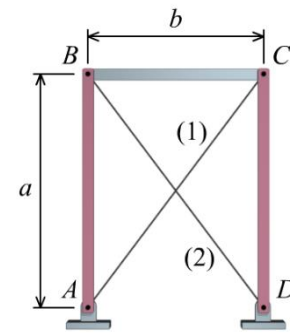

FIGURE P2.3
P2.3 Pin-connected rigid bars AB , BC , and CD are initially held in the positions shown in Figure P2.3 by taut wires (1) and (2). The bar lengths are $a = 24$ ft and $b = 18$ ft. Joint C is given a horizontal displacement of 5 in. to the right. (Note that this displacement causes both joints B and C to move to the right and slightly downward.) What is the change in the average normal strain in wire (1) after the displacement?